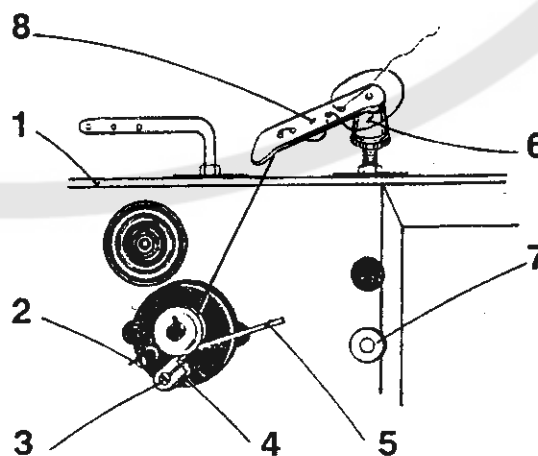
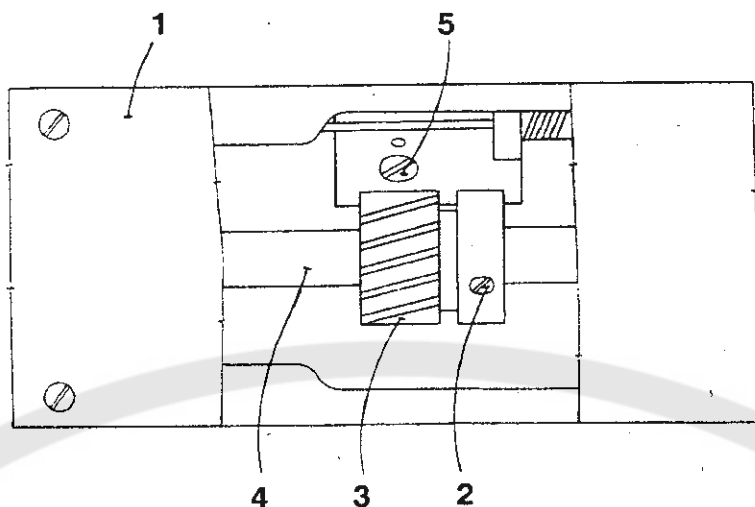

Figure 6
Figure 12
10. To wind the hook bobbin (Fig. 6)
18. To adjust the needle bar lateral movement (Fig. 12)
20. To adjust the tooth play of the zigzag transmission mechanism (Fig. 12, 13)
The tooth play of the zigzag stitch transmission mechanism is actuated by the eccentric pin (6). To adjust the tooth play, first screw out the four attachment screws (2, Table 1), remove the upper cover (1, Fig. 6), and loosen the screw (5, Fig. 12) located in the lug of the machine arm. By turning then the eccentric pin (6) adjust the tooth play of the zigzag transmission mechanism, i. e., between the complete cam (9, Table 10) and the gear wheel (3, Fig. 12) mounted on the upper shaft (4, Fig. 12), then lock the adjusted position by thoroughly tightening the screw (5, Fig. 12).